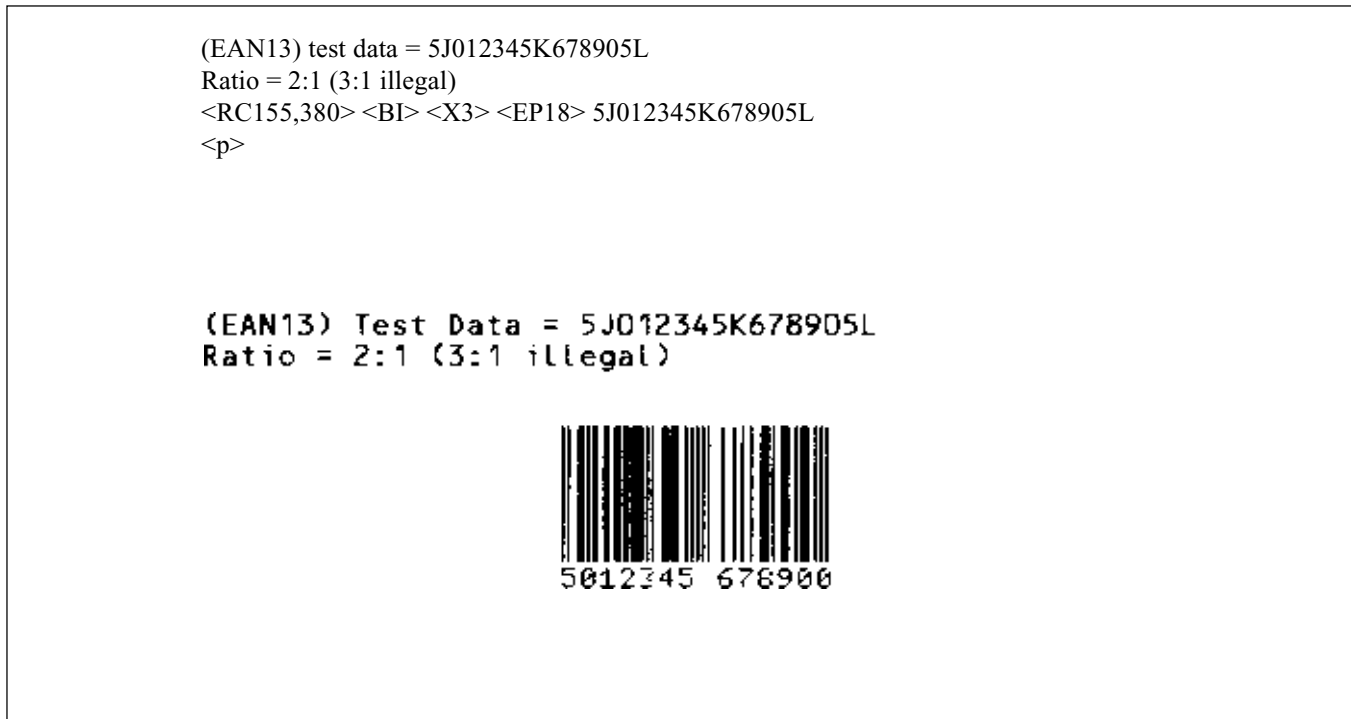

Figure 3-4. Sample EAN13 Bar Code Test Data and Resulting Printout
3-52. EAN13 Bar Codes. (Figure 3-4.) EAN13 bar codes are numeric only bar codes, which consist of a variable parity bit, a front guard character (J), 6 left numeric characters, a center character (K), 6 right numeric characters, and an ending guard character (L). The parity of the left numeric characters is determined by the first (parity) bit. The last bit of the right side is the check digit, the value of which is recalculated by the printer firmware after transmission.